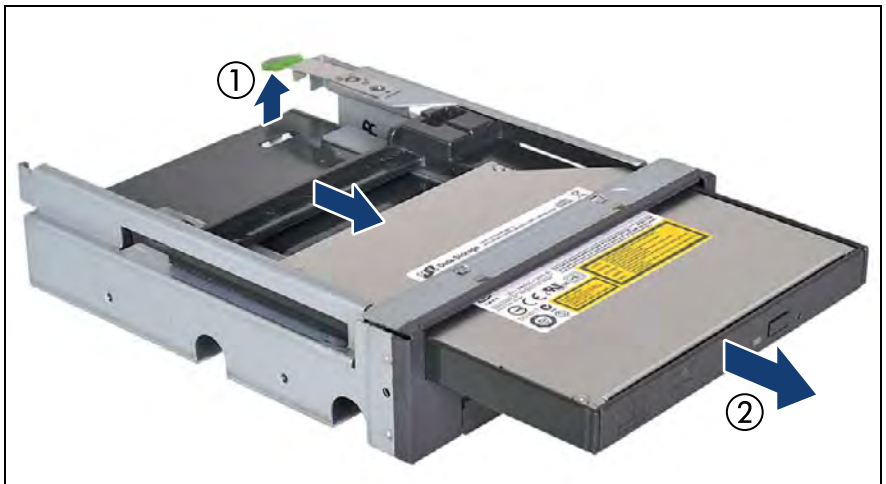

Figure 431: Removing the slimline ODD from the Multibay box
- ▶ Press up on the locking tab to disengage the slimline ODD dummy module as shown in figure 431 on page 563.